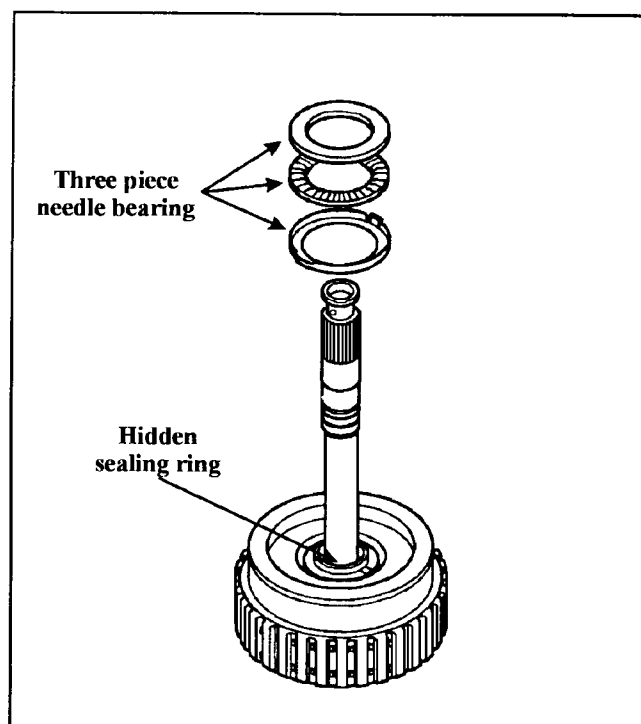
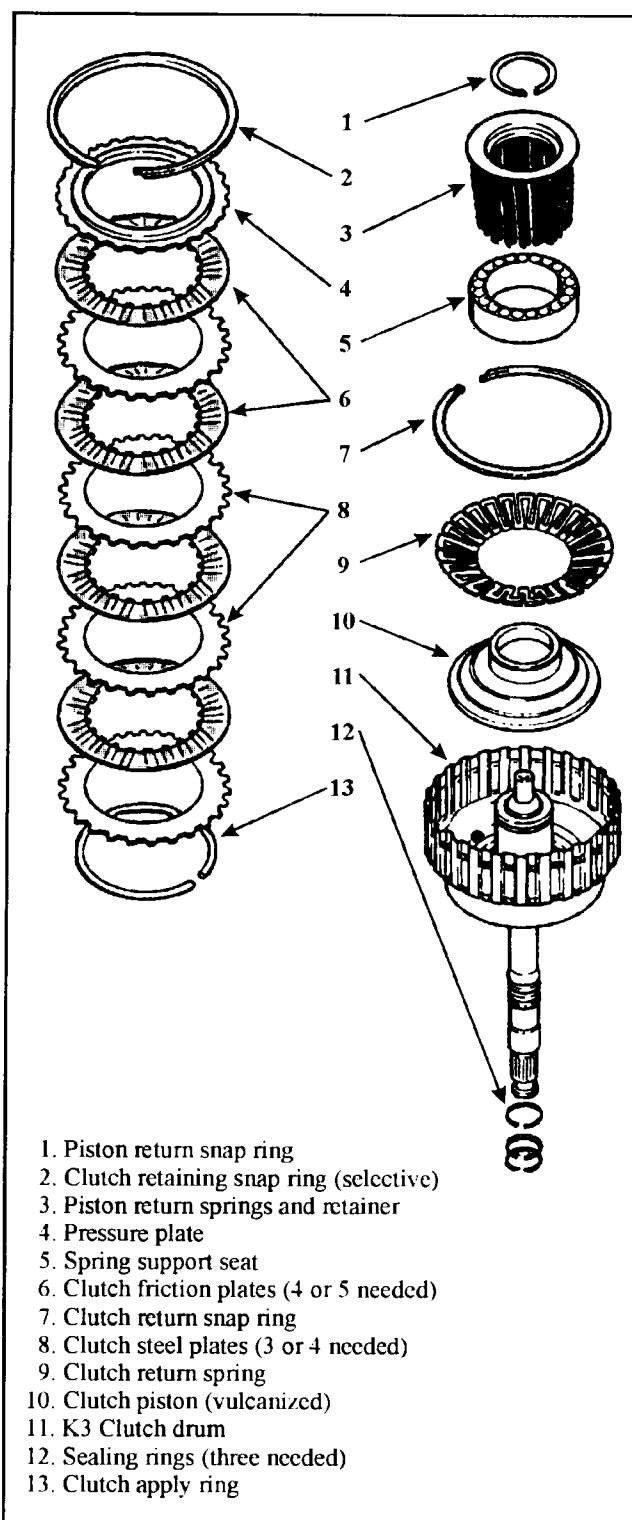

Figure 77
Figure 78
9. Remove the snap ring that retains the clutches in the K3 clutch drum (See Figure 78).
15. Note in Figure 78 there are three sealing rings shown for the K3 clutch drum. There is one sealing ring hidden in the area shown in Figure 77. Procedure for removing and servicing will be shown in the reassembly portion of this manual.